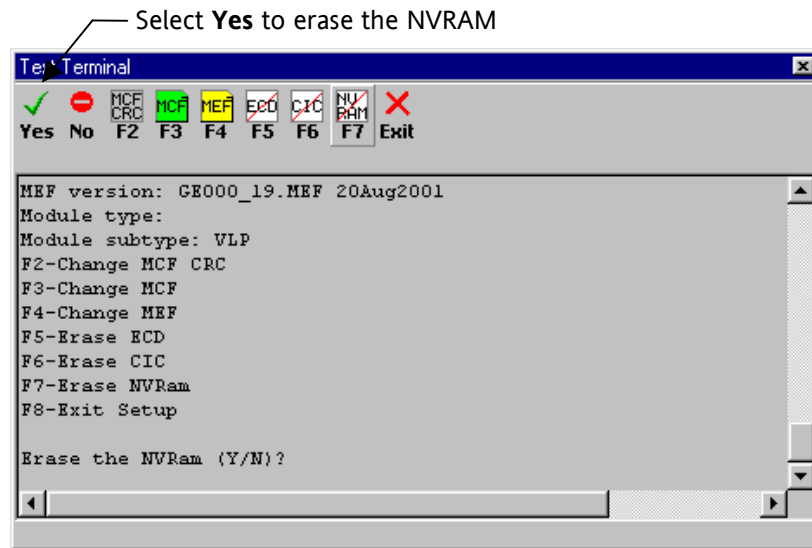

Figure 3-38
4. The prompt “Erase the NVRAM (Y or N)?” is displayed (figure 3-38). Select the **Yes** button.